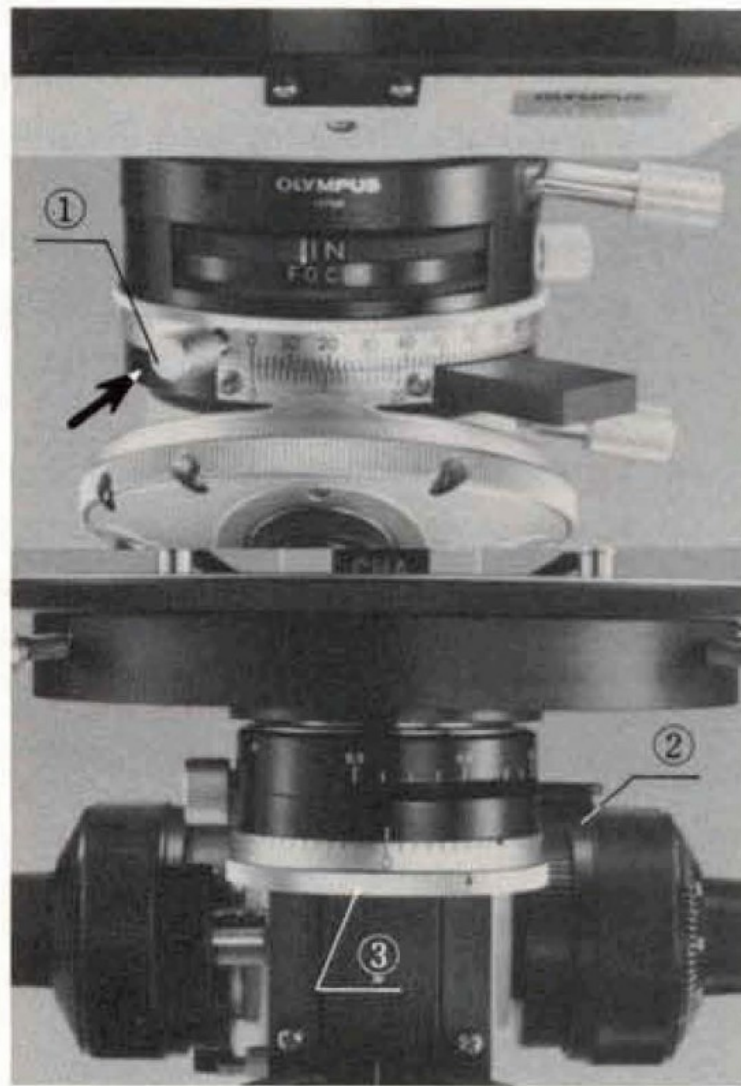

Fig. 4
1) Push the analyzer 1 into the light path, and make sure that both polarizer and analyzer are set at position "0" to attain the "Crossed filter" position. Then loosen the clamping screw 2 of the condenser. (Fig. 4)
2) Remove the specimen out of the light path so that a transparent area comes into the light path. Keeping the polarizer at the "0" position, rotate the polarizer rotation ring 3 until the optimum extinction is obtained, then clamp the ring. (Fig. 4)